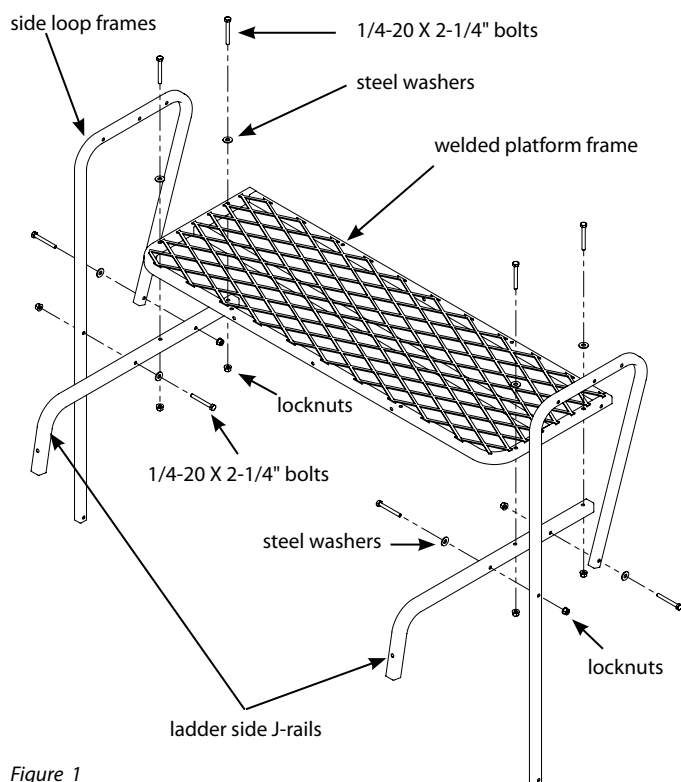

Figure 1
1. Attach (2) ladder side J-rails (411018) to (1) welded platform frame (411021) using (4) provided 1/4-20 x 2-1/4" bolts, locknuts and steel washers. **SEE FIGURE 1. DO NOT tighten all nut and bolt assemblies completely!**
**NOTE: Mesh surface of platform should be on top and rounded corners of platform are orientated as per figure 1. This step now makes this platform the seat platform.**
2. Attach (2) side loop frames (411024) to the previously assembled ladder side J-rails using (4) provided 1/4-20 x 2-1/4" bolts, locknuts and steel washers. **SEE FIGURE 1.**